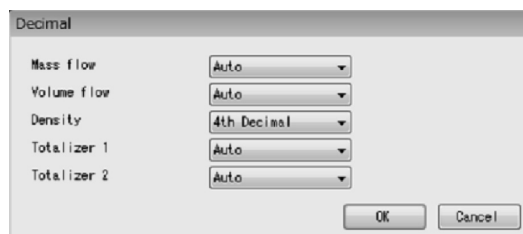

Fig.87
- ① Click "Setup (S)" > "LCD" > "Decimal" in the menu.
- ② The following window will be displayed (Fig. 87). Set the decimal point position to be used for measurement values displayed on the LCD here.